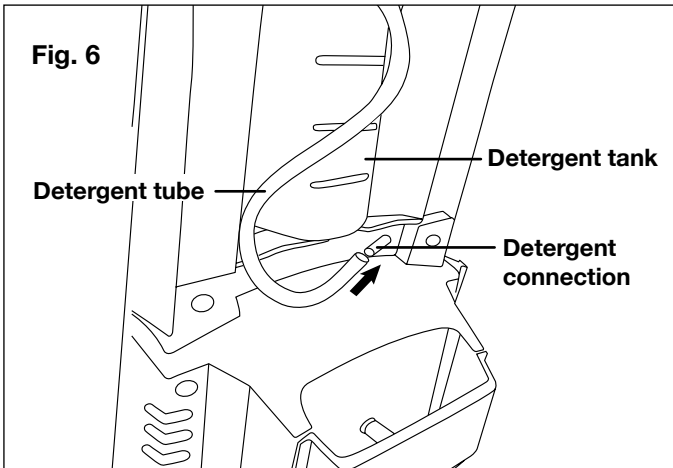

Fig. 6
5. Connect the PVC detergent tube to the detergent connection (Fig. 6).